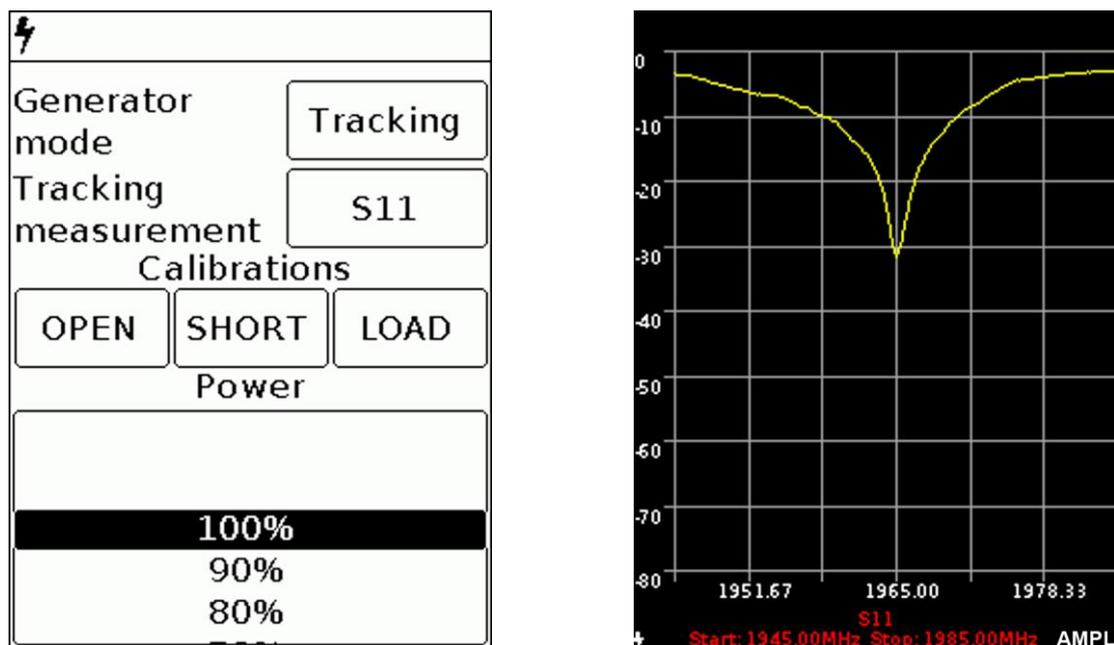

Figure 8.4.4 – Measurement of the reflection coefficient
8.4.3.1. Select the generator mode «Tracking» and type S11 measurements (Figure 8.4.4). The reflection coefficient S11 will be displayed in a logarithmic grid with vertical axis in dB. The horizontal axis displays the specified frequency range of the signal.